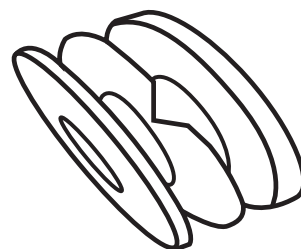

Fig. 28
4. Bend the line and hang it in the wheel (Fig. 28).